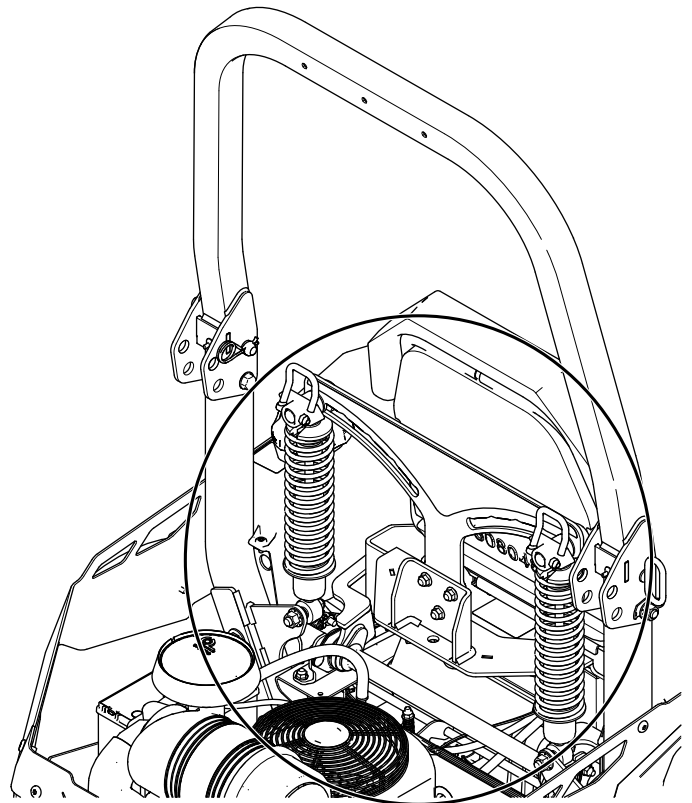

Figure 4
**Note:** Remove the cable ties in the area shown in Figure 4 before operating the machine.